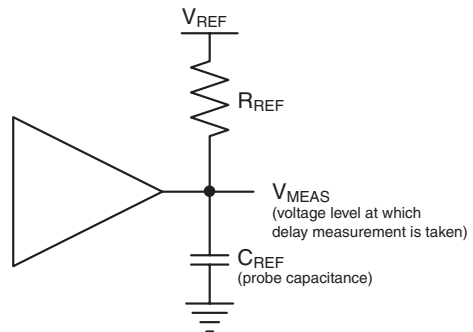

Figure 51: Generalized Test Setup
- Note that this is an input voltage reference that bears no relation to the V_{REF} / V_{MEAS} parameters found in IBIS models and/or noted in Figure 51.
Output delays are measured using a Tektronix P6245 TDS500/600 probe (< 1 pf) across approximately 4" of FR4 microstrip trace. Standard termination was used for all testing. (See Virtex-II Platform FPGA User Guide for details.) The propagation delay of the 4" trace is characterized separately and subtracted from the final measurement, and is therefore not included in the generalized test setup shown in Figure 51.